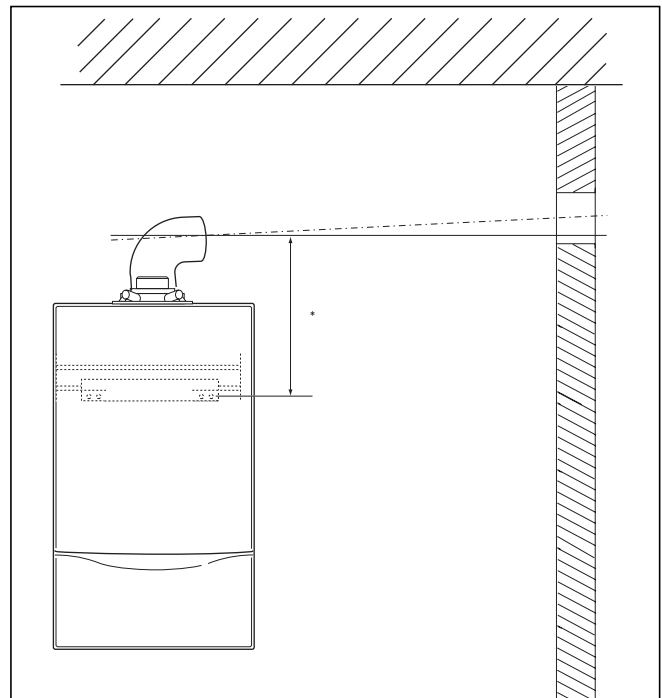

Fig. 3.8 Distance between hanging bracket and wall breakthrough
- The position of the flue exit hole should allow the flue to be installed with an upwards slope towards the terminal of approximately $3^\circ \pm 1^\circ$, equivalent to $50 \text{ mm} \pm 20 \text{ mm}$ rise per metre of flue length. Calculate the required rise according to the flue length and mark the position of the flue exit hole (fig 3.8).